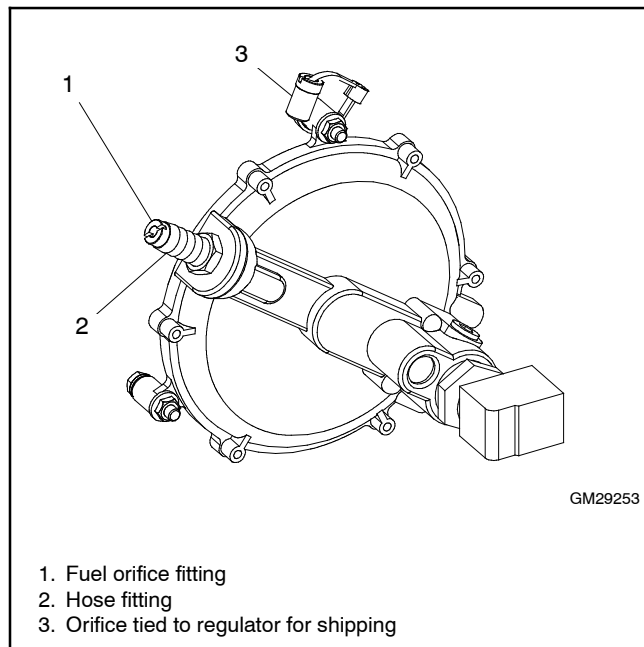

Figure 1-11 Fuel Orifice Fitting Installation
6. Use a straight-blade screwdriver to remove the NG orifice from the hose fitting. See Figure 1-11.